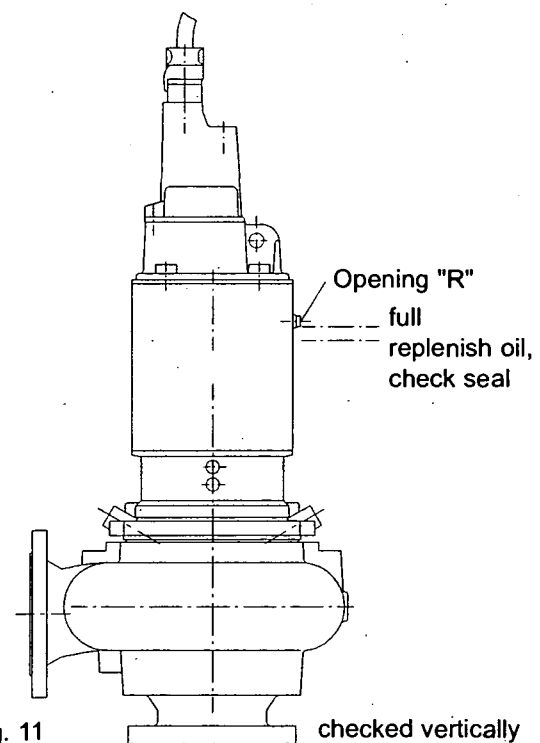

Fig. 11
2. For pumps with cooling type "E" stand pump with shaft vertical and remove screw plug "R". Oil level must be at the level of opening "R" (Fig. 11).